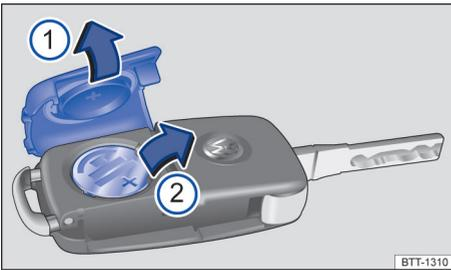

Fig. 41 Vehicle key with remote control: ① Open the battery case cover. ② Remove the battery.
Key for → Fig. 41:
- Remove the cap on the rear side of the key → Fig. 41 ① as indicated by the arrow → ①.
- Position the new battery as shown ② and push it into the battery compartment in the opposite direction of the arrow → ①.
- Fit the cap as shown ① and push it onto the vehicle key housing in the opposite direction of the arrow until it engages.